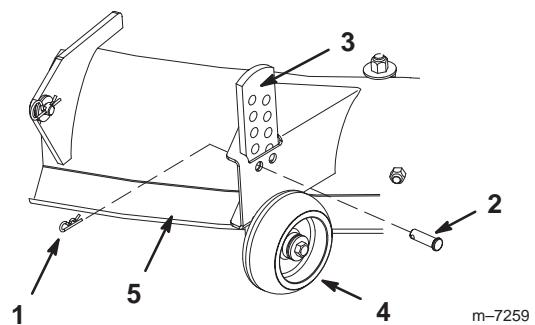

Figure 11
1. To change the height of the mower front wheels, remove the hair pin and clevis pin securing the wheel and gage plate to the mower deck. (Fig. 11).
2. Move the plate to desired position. The holes are staggered to allow for more height adjustment options (Fig. 11).